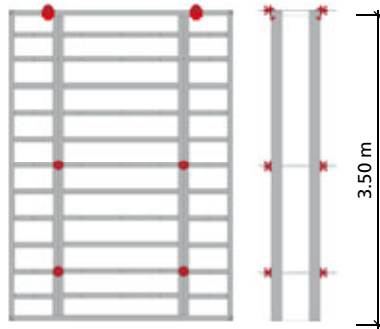

Fig. 33.2
■ For a maximum concreting height of 3.50 m, a Uni-tie claw can be attached over the panel instead of installing ties in the top tie holes (Fig. 33.2).